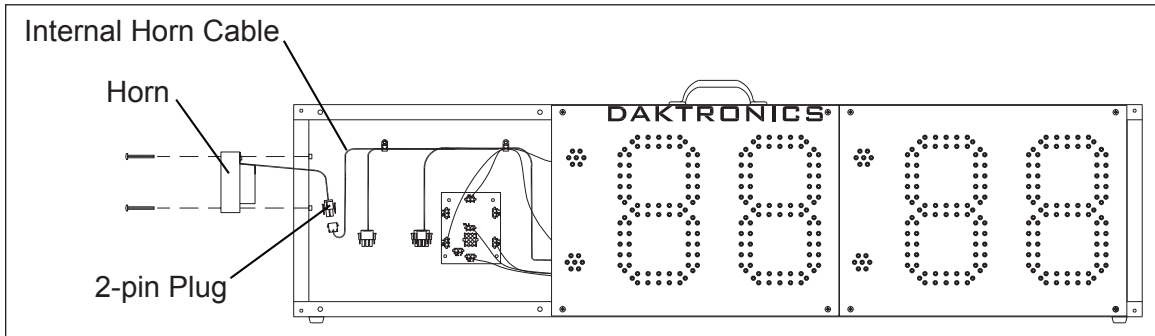

Figure 6: Horn Installation (Left Panel Removed)
3. Run the horn cable into the cabinet through the mounting hole, as shown in **Figure 6**. Reach through the hole and connect the horn's 2-pin plug to the mating jack. (The horn jack is on the left-most cable in the cabinet when viewed from the front; the cable is already plugged into jack **J18** on the driver).